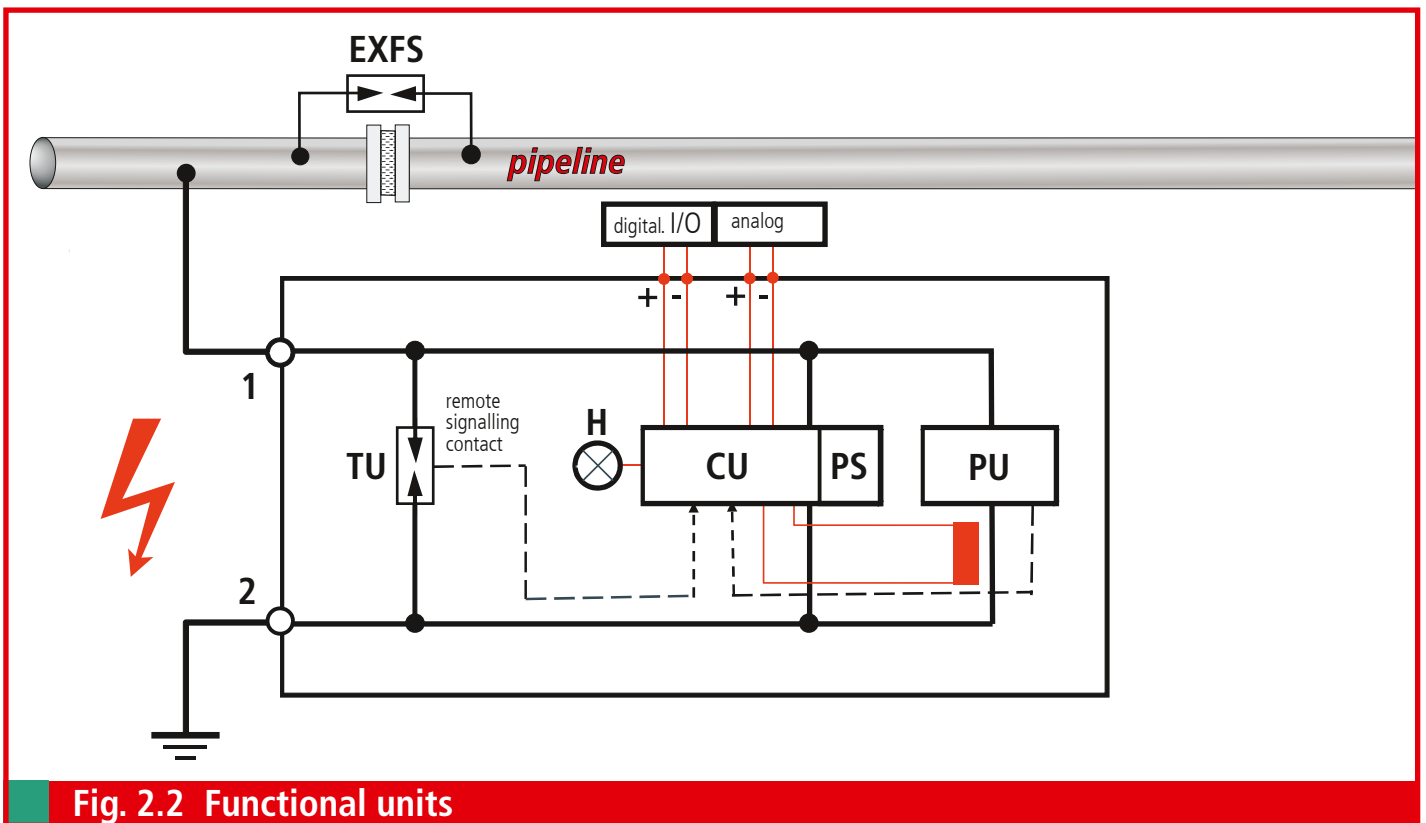

Fig. 2.2 Functional units
The **VCS**D 40 IP65 **v**oltage-**c**ontrolled **s**mart decoupling **d**evice is used in widely distributed and highly networked electric systems which are influenced by external voltages from various sources of interference (e.g. high-voltage systems, traction power supply systems, low-voltage systems, lightning activity) (see also Fig. 2 and Fig. 2.2, page 6).
Components for limiting high-level transients resulting from lightning effects comprise powerful spark gaps. Characteristic properties of spark gaps are their short response time (typically 100 ns) and their high energy discharge capacity in case of impulses in the μs range (e.g. some 10 kA (10/350 μs)). Long-duration discharge processes (long-term or temporary time range) cause thermal overload and therefore a "relief circuit" has to "take over" the discharge process in this case, meaning that the complete discharge current flowing through the spark gap has to commute to the "relief circuit" as soon as the overvoltage exceeds the transient time range. This "relief circuit" (PU) of the *VCSD 40 IP65 smart decoupling device* consists of power semiconductors which are activated by a coordinated evaluation unit at the transition from the transient to the temporary / long-term time range. The evaluation unit (CU) evaluates different sensor signals, thus coordinating the interaction of the individual functional units (see Fig. 2.2).